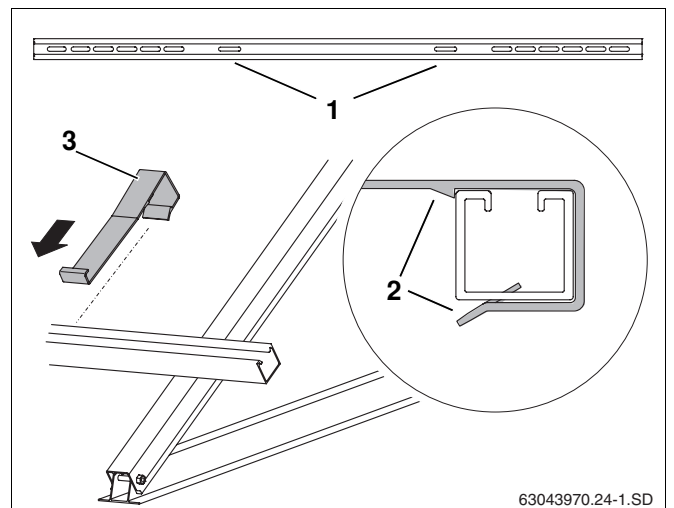

Fig. 36 Attaching anti-slip protection
- Push each anti-slip protector (Fig. 36, **Item 3**) into the innermost slotted holes (Fig. 36, **Item 1**) over the profile rails until it clicks into place (Fig. 36, **Item 2**).